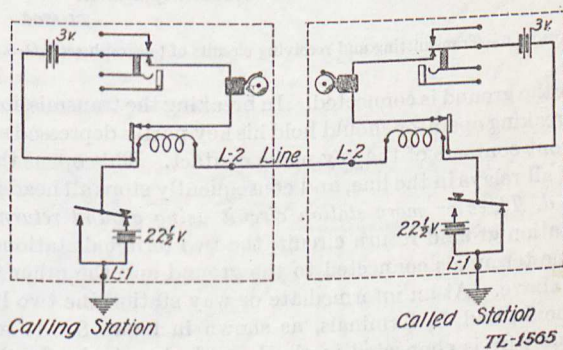
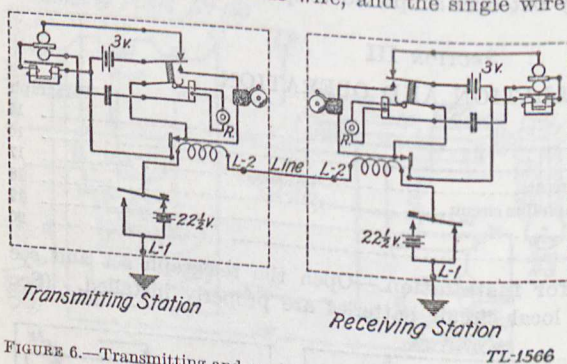
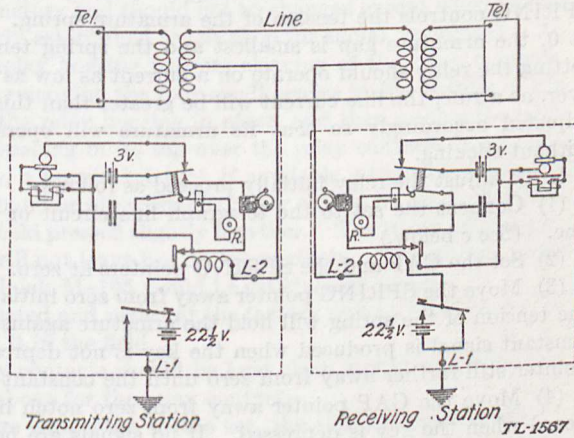

FIGURE 5.—Calling circuit of a telegraph line circuit using telegraph set TG-5.
FIGURE 6.—Transmitting and receiving circuits of telegraph set TG-5.
FIGURE 7.—Two-station circuit of telegraph set TG-5 operating over a simplex telephone circuit.
b. The adjustable line relay in each set operates on a low direct current to control a local circuit in the set. If two sets are connected and the key of one is operated, it closes the line circuit, sending direct current over the line and through the line relays of both sets, operating them. (See fig. 5.) The battery which supplies this line current is furnished only by the set which is transmitting, no battery being supplied to the line by the receiving set. The line battery is normally a 22½-volt dry battery contained in the set.
the bell to ring. (See fig. 5.) However, if the headset is plugged in to the jack, the jack contacts cut the bell out of the circuit and place an interrupter of the "howler" type in series with the 3-volt battery. In this condition, operating the
key in either set causes the interrupter to send a 1,000-cycle tone into the receiver. (See fig. 6.)
14. Circuits.—Figure 4 shows the circuit diagram and wiring of the set. Figure 5 is a schematic diagram of only the calling circuit when one station is calling another. Figure 6 illustrates the sending and receiving circuits of two stations installed with a telegraph line wire and ground return when one station is transmitting to another. Figures 7 and 8 illustrate the same for a 2- and a 3-station circuit respectively but over simplex telephone circuits with ground return.
18. **Methods of connecting into a telegraph line circuit.**—*a. Two-station circuit using telegraph line wire and ground return.*—Two stations connected together in a ground return circuit, the single line wire of which is used exclusively for telegraph, are shown in figure 6. This method is used when there is a separate line wire available exclusively for telegraph use.
b. Two-station circuit using simplex telephone circuit and ground return.—When there is no separate line wire available exclusively for telegraph communication, the usual case in a military wire system, a simplex telephone circuit serves as the line wire as shown in figure 7. In this case both telephone wires together make up the telegraph line wire, and the single wire from the mid-point of the